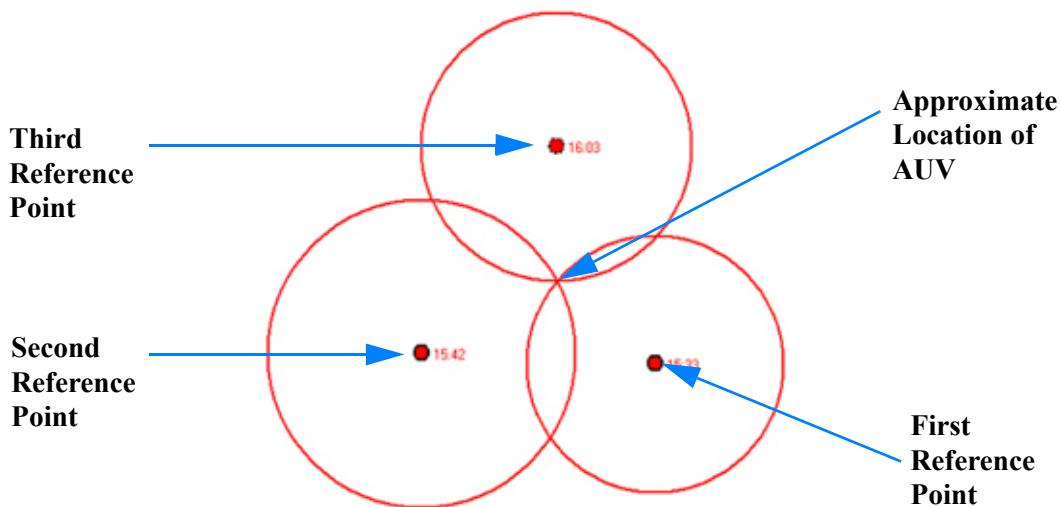

Figure 8: Approximate Location of AUV at Intersection of Three Circles
6. Turn the search boat 90 degrees and drive to a third location and take a new range reading. Make a new annotation on the chart. There should now be three intersecting circles on the chart. The intersection of the three circles indicates the approximate position of the AUV. (See Figure 8.)